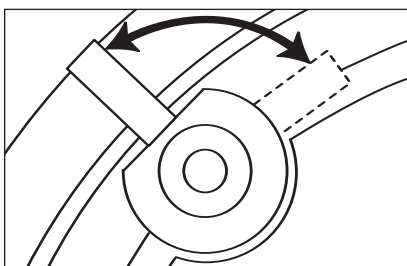

Figure 17 Tightening the mounting "dogs"
5. The DS8.3 and DS8.5 feature a separate frame assembly which installs with four clamps or mounting "dogs" which hold the frame in place. The dogs are tightened via four front-baffle screws. Tighten the dogs by turning the screws clockwise. **DO NOT OVER-TIGHTEN THESE SCREWS.** Over-tightening the clamps may make the grille difficult to install. (**See Figure 17**).